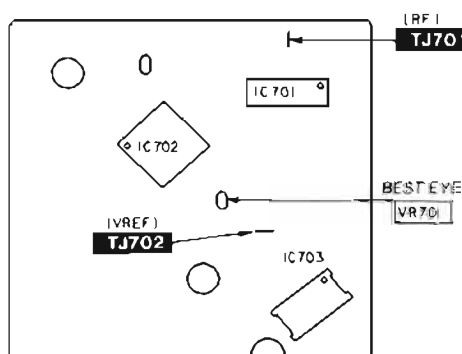

Fig. 2
3. Adjust **VR701** until the RF signal eye pattern amplitude is maximized. (Shown in Fig. 2)